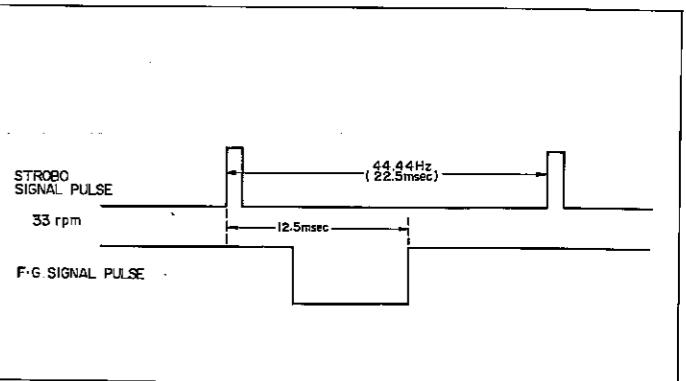

Figure 40
1. Connect one end of a dual-beam synchroscope, on the control PWB, between pin ⑬ (GND) and pin ⑭ and another between pin ⑬ (GND) and pin ⑯.
2. Setting the speed selector at "33 rpm" position, adjust the variable resistor VR5 so that strobo signal pulse and frequency generator's signal pulse will be shown in Figure 40.